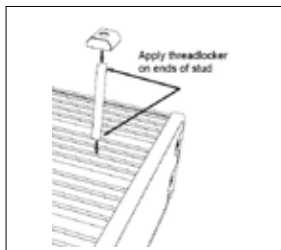

Figure 2: Stud and nut installation
2. Insert the #10-32 studs into the fixture, then put nut on (*see figure 2*). This is adjustable to allow for desired gap between fixture and cross bar.